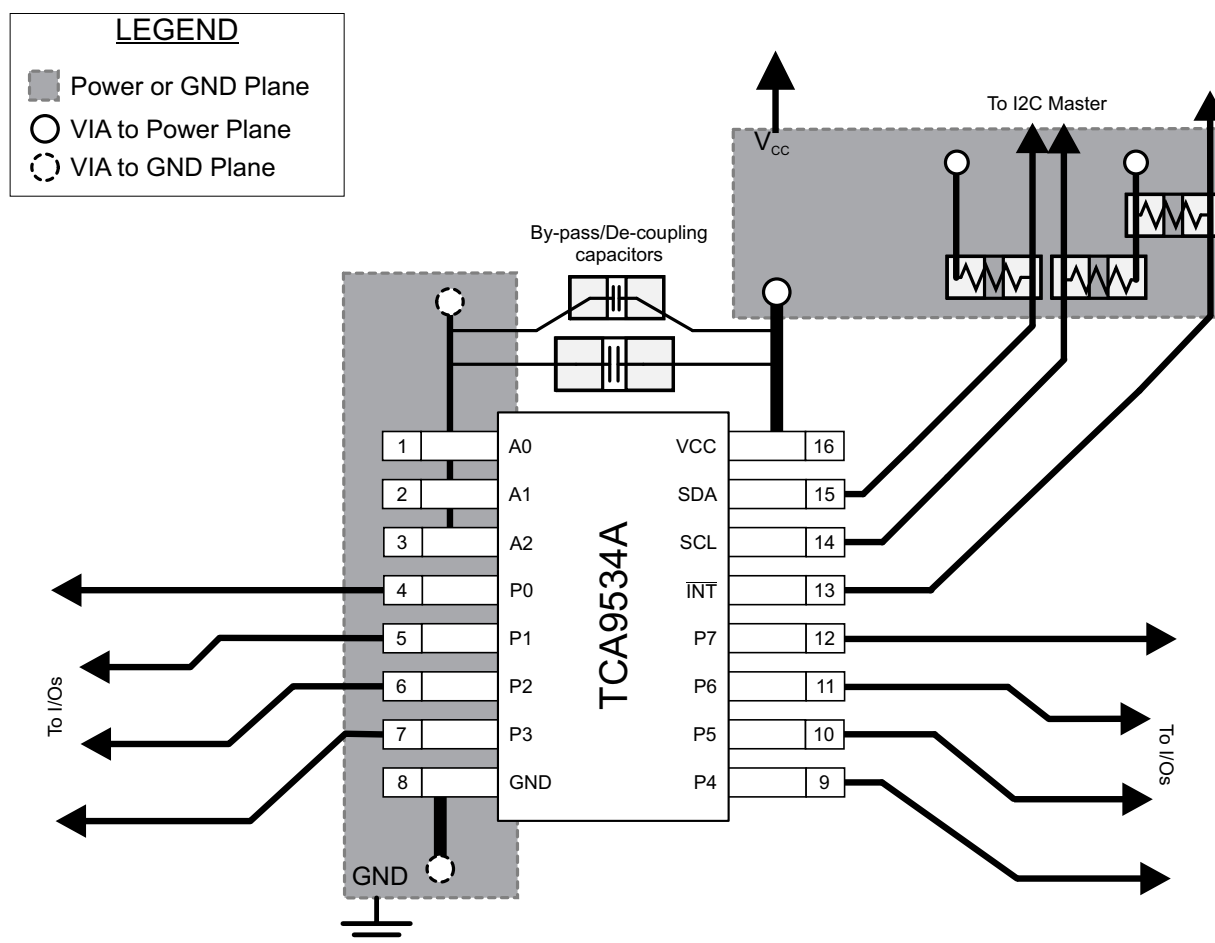

Figure 31. TCA9534A Layout
In all PCB layouts, it is a best practice to avoid right angles in signal traces, to fan out signal traces away from each other upon leaving the vicinity of an integrated circuit (IC), and to use thicker trace widths to carry higher amounts of current that commonly pass through power and ground traces. By-pass and de-coupling capacitors are commonly used to control the voltage on the VCC pin, using a larger capacitor to provide additional power in the event of a short power supply glitch and a smaller capacitor to filter out high-frequency ripple. These capacitors should be placed as close to the TCA9534A as possible. These best practices are shown in Figure 31.
For the layout example provided in Figure 31, it would be possible to fabricate a PCB with only 2 layers by using the top layer for signal routing and the bottom layer as a split plane for power (V_{CC}) and ground (GND). However, a 4 layer board is preferable for boards with higher density signal routing. On a 4 layer PCB, it is common to route signals on the top and bottom layer, dedicate one internal layer to a ground plane, and dedicate the other internal layer to a power plane. In a board layout using planes or split planes for power and ground, vias are placed directly next to the surface mount component pad which needs to attach to V_{CC} or GND and the via is connected electrically to the internal layer or the other side of the board. Vias are also used when a signal trace needs to be routed to the opposite side of the board, but this technique is not demonstrated in Figure 31.